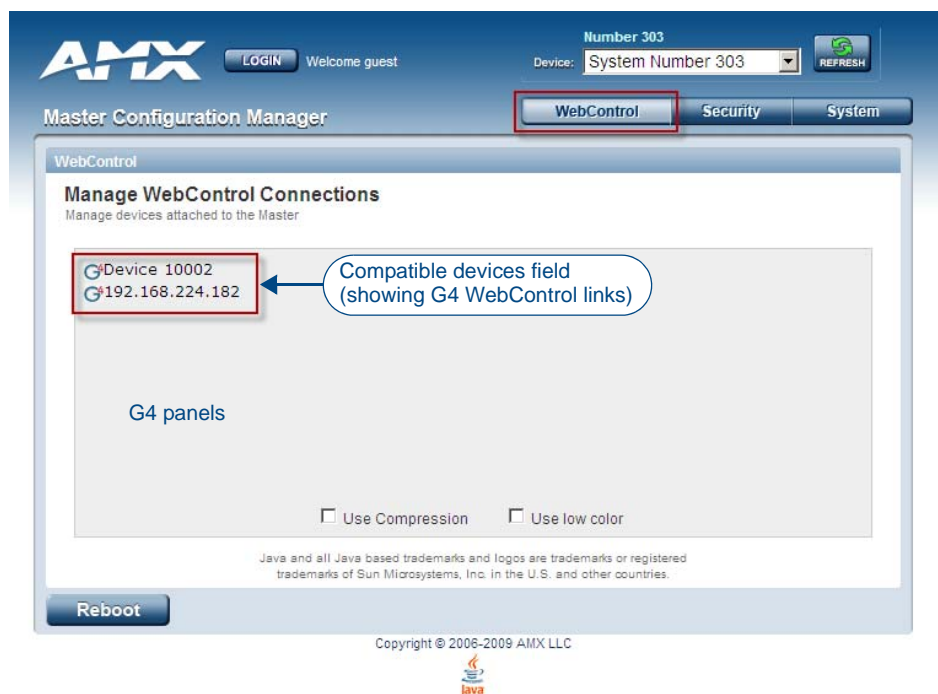

FIG. 38 Manage WebControl Connections page (populated with compatible panels)
5. The *Manage WebControl Connections* page (FIG. 38) is accessed by clicking on the *Manage connections* link within the Web Control section in the Navigation frame.